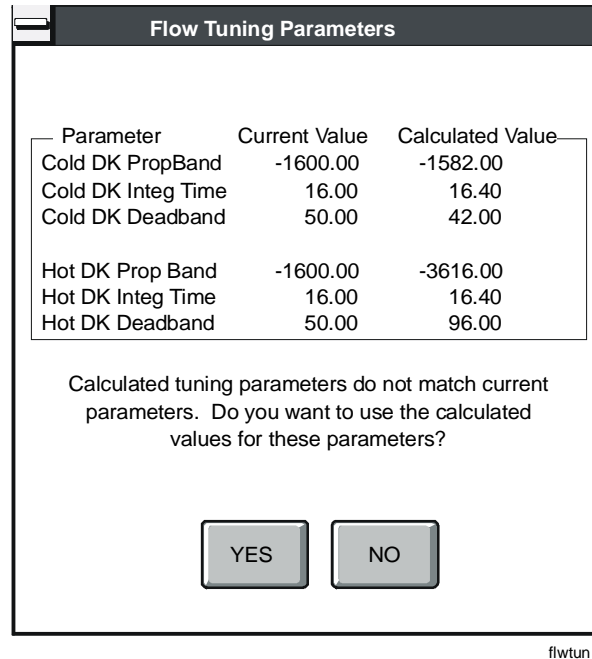

Figure 2-8: Flow Tuning Parameters Dialog Box
Note: If you are saving a VAV application, and changes to the box area, actuator stroke time, or target device affect the flow tuning parameters, the Flow Tuning Parameters dialog box appears (Figure 2-8). (This does not apply to the VMA.) This dialog box displays the current value of the flow loop tuning parameters (Prop Band, Integration Time, and Deadband) and the calculated tuning parameter values for stable control.
- YES saves the calculated tuning parameter values to the configuration file (Figure 2-8).